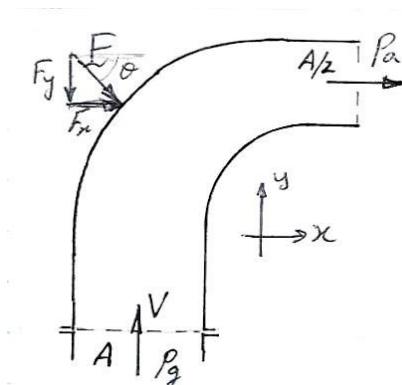

Figure P4.50
4.50 A duct carries a steady flow of air of constant density ρ and exits to atmosphere, as shown in Figure P4.50. At its entrance the gauge pressure is p_g , the velocity is V , and the area is A . At its exit the area is $A/2$. Assume one-dimensional, frictionless flow, and ignore gravity.